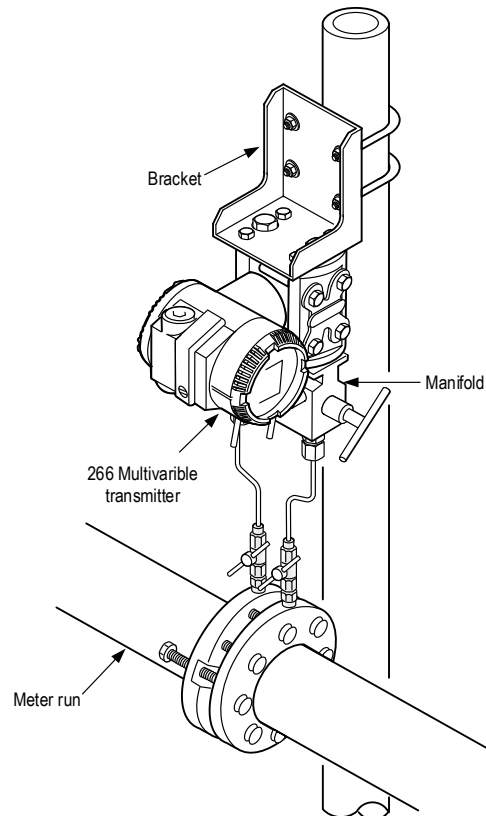

Figure 17: Horizontal flange assembly, pipe-mounted
- Attach the transmitter to the underside of the bracket, using four bolts (Figure 17).